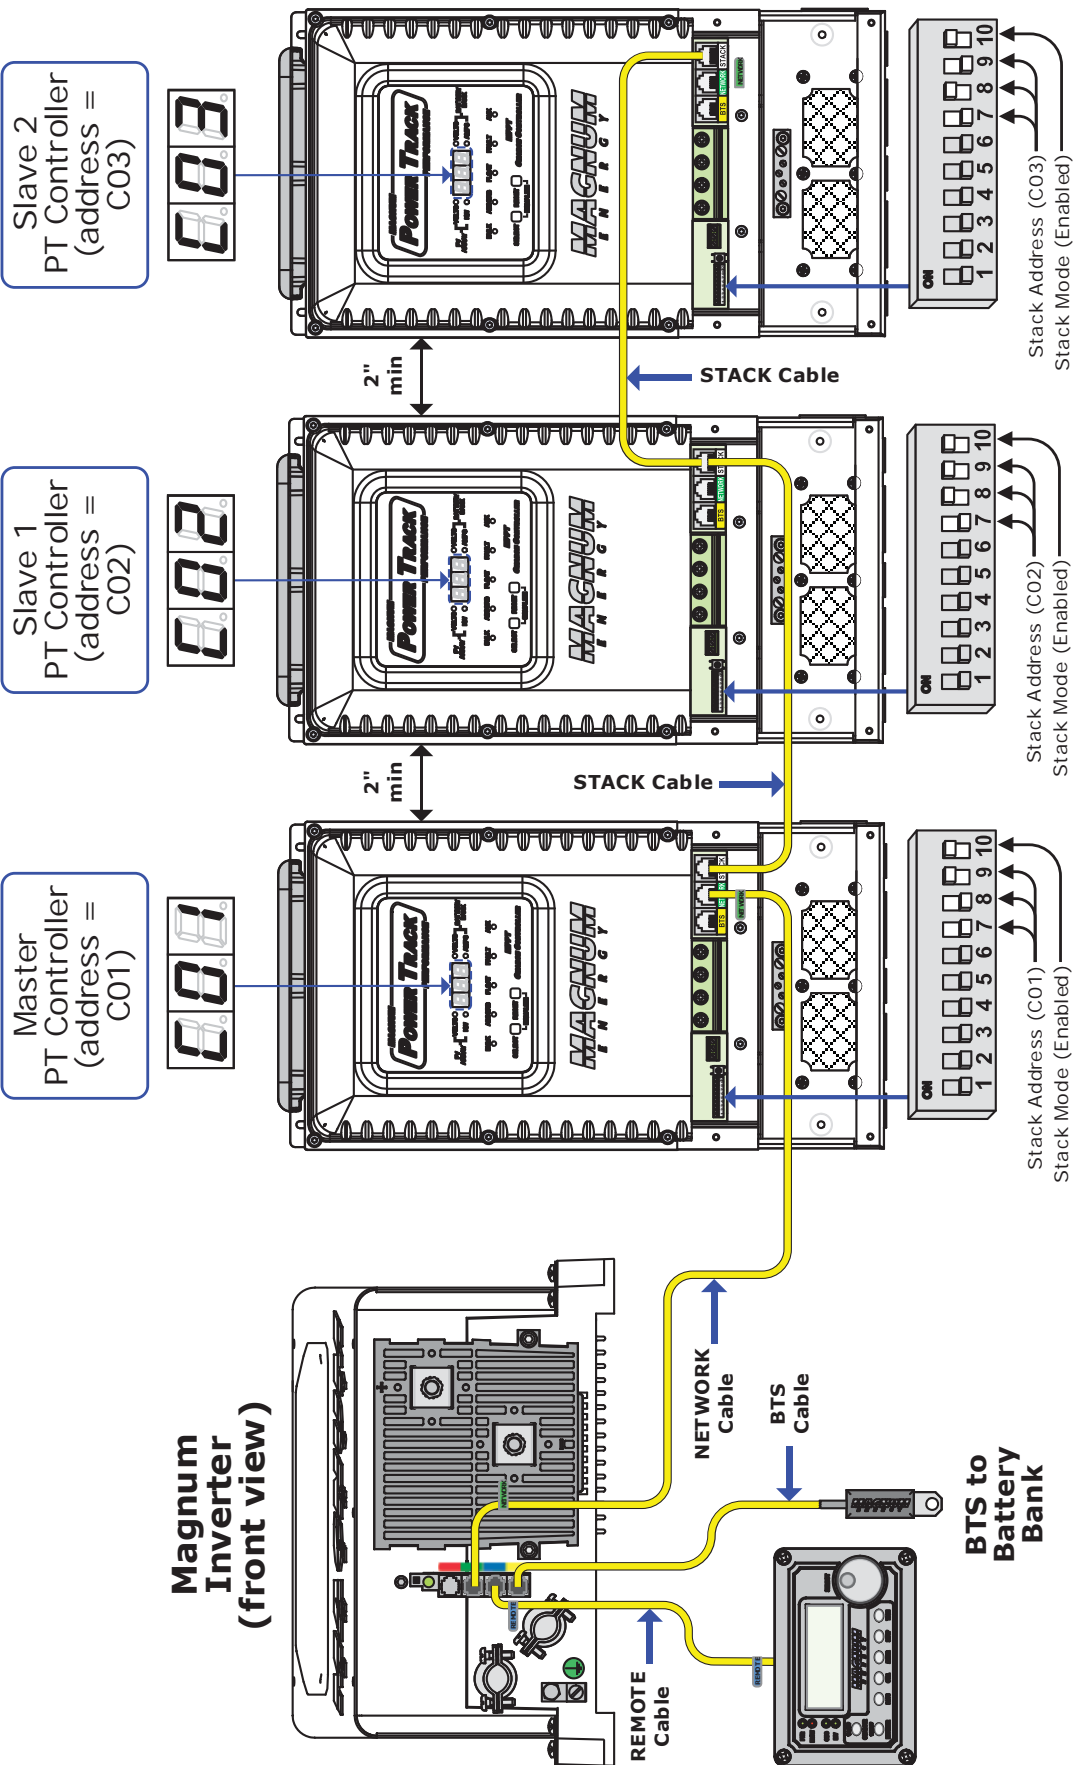

Figure 2-28, Networking Multiple PT Controller's
Figure 2-23 shows a 'STACK' cable. It allows multiple controllers to be connected together. This cable is 6' (1.83m), with a male RJ45 8P8C (8-position/8-conductor) connector on each end. It comes with 300-volt rated, yellow insulation. One end of this cable is connected to one of the STACK ports in one controller, and the other end is routed to another controller and connected to one of the STACK ports inside that controller's wiring area. See Figures 2-28 and 29.
3. Each controller must be connected to each other using a Stacking cable - connected in a daisy chain style as shown in Figures 2-28 or 2-29.
6. One controller (only one controller) in the stacked configuration must be connected to the network port on a Magnum inverter, which must also be networked to a Magnum remote (e.g., ME-ARC or ME-ARTR) - see Figures 2-28 or 2-29 and Table 2-10.
Note: If using a ME-ARTR, do not connect any PT-100’s directly to the ME-ARTR (see Figure 2-28).
7. DIP switch 10 must be enabled (UP) on each stacked controller (see Figures 2-28 or 2-29).
8. Each PT controller must have it’s own unique network address number (from C01 to C07). Use DIP switches 7, 8, and 9 to set the network address number on each controller [refer to Figures 2-28 or 2-29 and Section 3.1 (Switches 7, 8 & 9)].